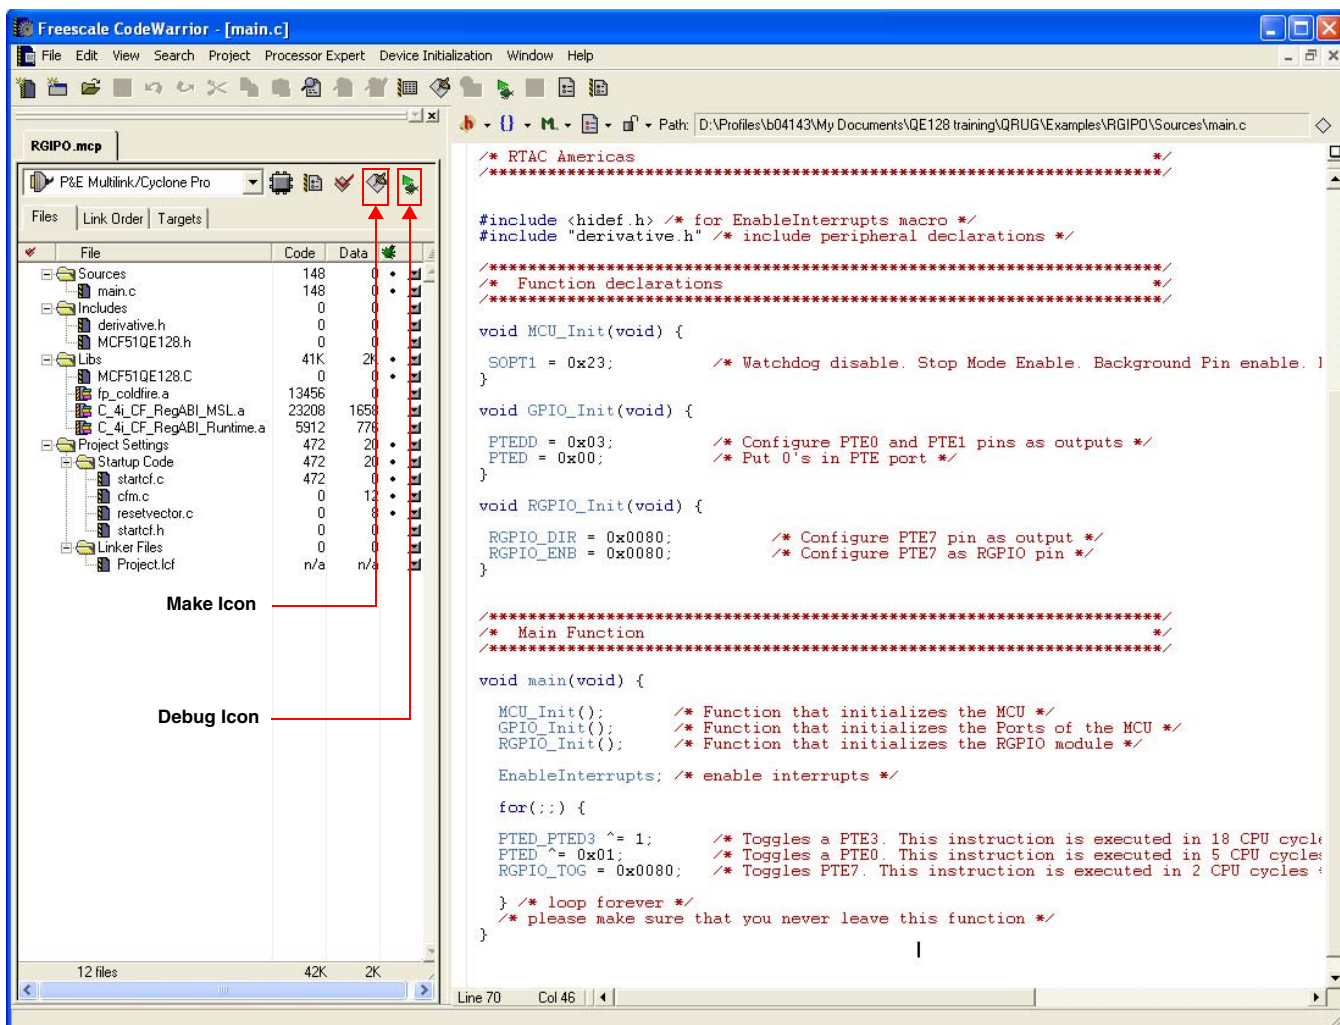

Figure 3-3. Make Icon and Debug Icon
7. There are three different ways to compile the project. Click on the make icon, beside the combo box, as shown in Figure 3-3. The make command can be accessed from the Project menu, -> Make, or just press F7 key on your keyboard.